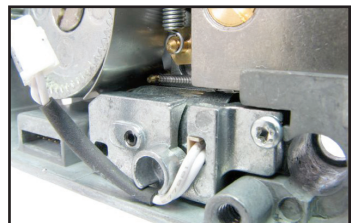

Figure 8 - Route cable properly.
9. Route solenoid cable between Lock Case wall and the "U" part of solenoid cover to avoid pinching by Back Cover (see Figure 8).